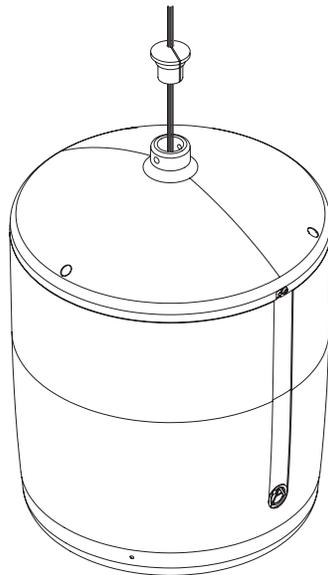

Figure 7
10. Slide the top hole-plug over the main support cable, safety cable, and Ethernet cable using the opening on the side of the plug. Then slide the plug down the cable and into the top cover hole. (Figures 7 and 8)